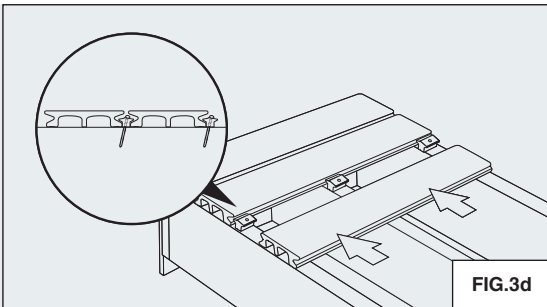

FIG.3d
- Repeat as required. (REFER TO FIG.3d)